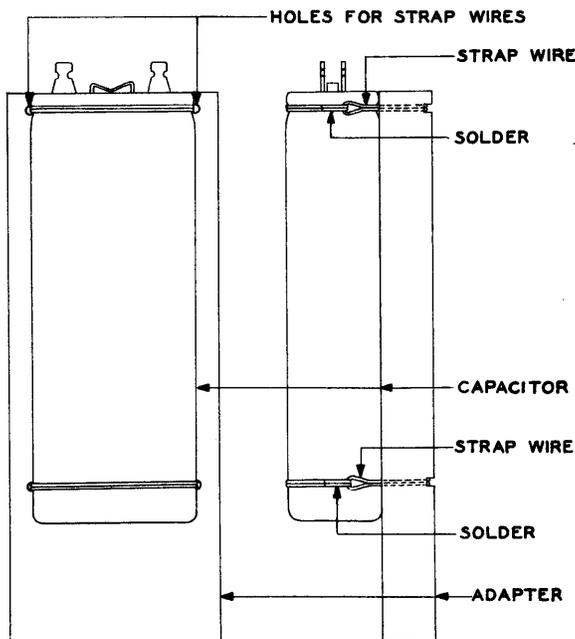

Fig. 1 - 447A Capacitor Mounted on P-431343 Adapter
4.03 Position the capacitor or network on the ungrooved side of the adapter as shown in Fig. 1 so that the groove near the top of the capacitor or network is in line with the wire extending from the holes near the top of the adapter. Wrap the doubled wire around this groove so that the loop end of the wire is at one side of the capacitor or network. Then pass the cut ends of the wire through the loop, pull the wire tight with the P-long-nose pliers and bend the ends back from the loop. Cut off the ends of the wire leaving a length of approximately 1/4 inch behind the loop as shown in the figure. Press the ends of the wire against the wire in the groove and solder them in place. Similarly wrap and solder the wires extending through the other holes in the adapter.